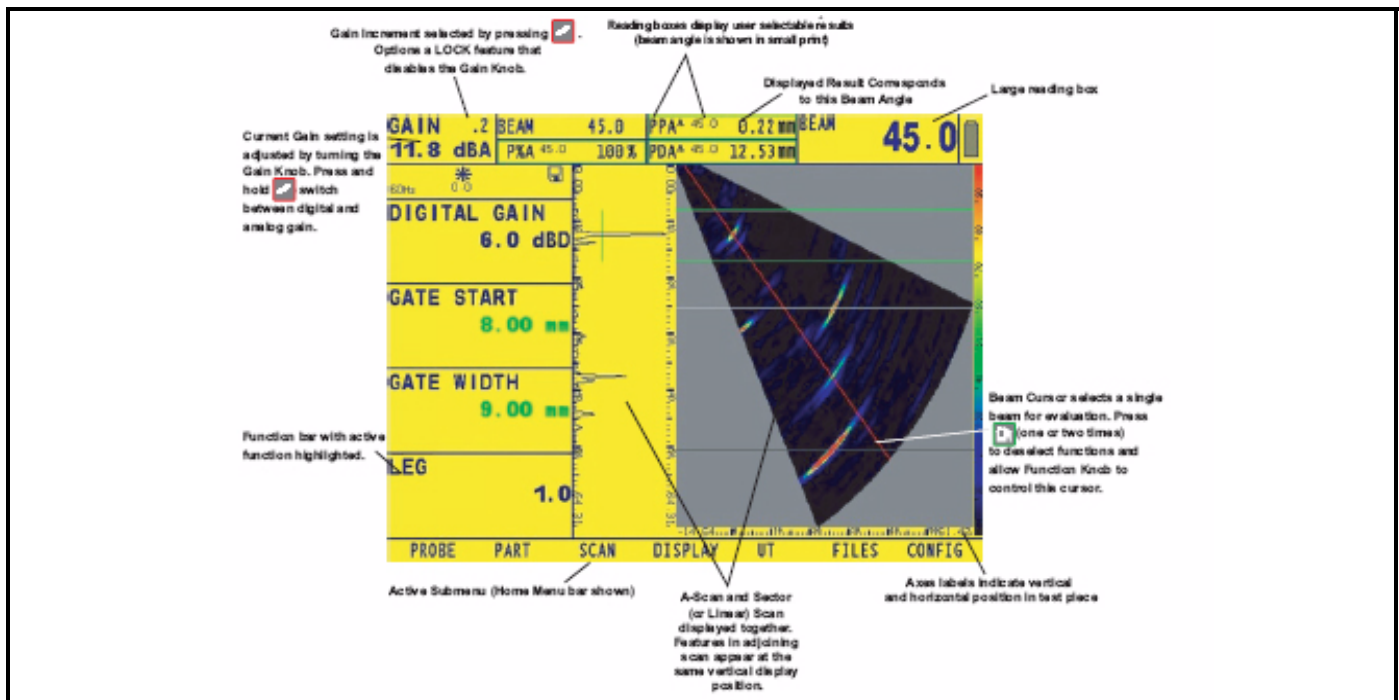

Figure 26: The A-Scan can be displayed (note its vertical orientation) together with either the Sector (shown) or Linear Scan.
- Sector or Linear Scan with A-Scan (Figure 26 on page 54)
The four measured readings can be displayed in any of the four small reading boxes at the top of the display screen. In addition, the result displayed in one of the four small boxes can be shown in the large reading box (see Figure 26 on page 54). Also note that when time-of-flight or thickness readings are displayed, the detection method selected for that gate is indicated with a ^ (representing PEAK) or / (representing FLANK). See Section 2.8.2 to select detection methods.